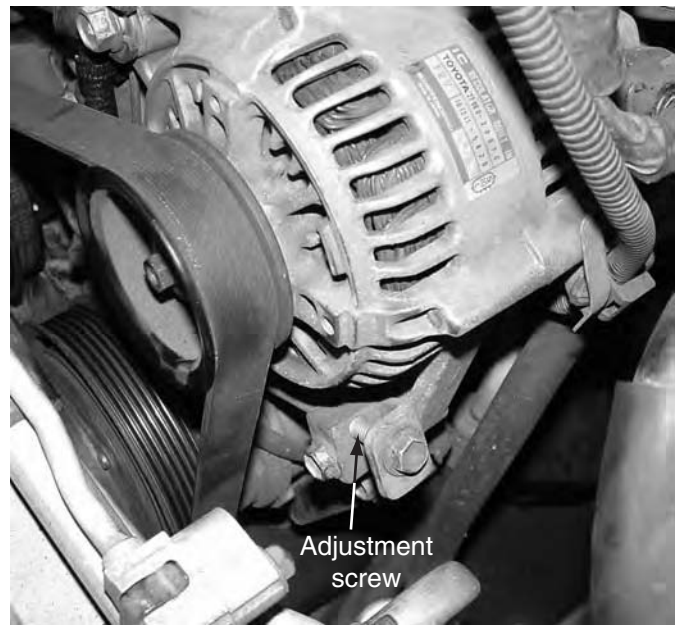

FIGURE 15.21 An adjustable jackscrew tensions this belt. (Courtesy of Tim Gilles)
- Turning an adjustable jackscrew (**Figure 15.21**)